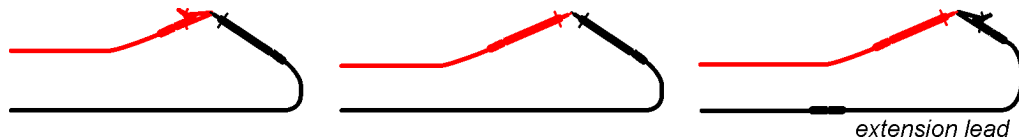

Figure 11.43: Shorted test leads
- Connect test cable to the instrument and short the test leads together see **Figure 11.43**.